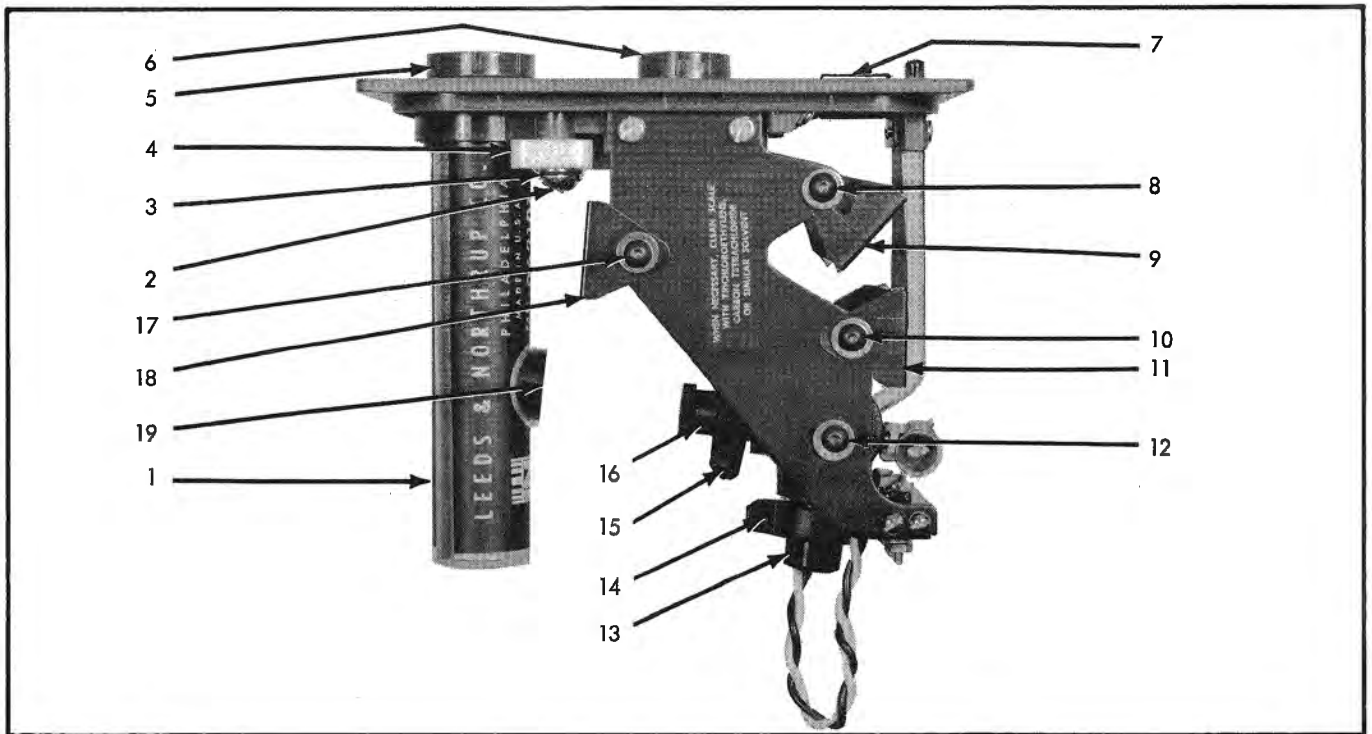

Figure 4-2. GALVANOMETER PART LOCATIONS
c. **GALVANOMETER SYSTEM REPLACEMENT.** The galvanometer tube (1, Figure 4-2) contains the galvanometer system consisting of a coil, filamentary suspension, mirror, and magnet. Since this is a very delicate mechanism with quality construction, the entire tube must be replaced if something goes wrong with the galvanometer system. However, because of the protective nature of the thermocouple, the galvanometer system needs to be replaced only in rare cases. To replace the galvanometer system, proceed as follows:
- (1) Remove eight screws fastening front panel of 540A to case and carefully lift front panel and attached chassis from case assembly.
- (2) Remove connections to galvanometer system terminals (3).
- (3) Remove two screws (2) fastening galvanometer system (1) and yoke (4) to galvanometer mounting plate and lift galvanometer system and yoke from plate. Note arrangement of washers on screws since they must be replaced in the same sequence.
- (4) Remove two screws (3) fastening galvanometer system to yoke and remove yoke.
- (5) Mount yoke on new galvanometer system making sure that yoke is centered before tightening screws.
- (6) Center FINE ADJUST control (6).
(1) Remove eight screws fastening front panel of 540A to case assembly and carefully lift front panel and attached chassis from case.
(2) Loosen lamp-socket-holding screw (14, Figure 4-2) with Allen wrench (mounted on chassis next to galvanometer) enough to permit lamp socket (13) to slide out of housing.
(3) Remove old lamp and insert new lamp.
(4) Insert socket with lamp in housing and tighten lamp-socket-holding screw just enough to hold lamp socket in place.
(1) Center **FINE ADJUST** control (6, Figure 4-2).
(2) Turn coarse adjust control (5) until index line of image is as close as possible to zero on scale.
(3) Bring index line to zero with **FINE ADJUST** control.
(1) Remove eight screws that fasten front panel of 540A to case assembly and carefully lift front panel and attached chassis from case.
(2) Use small Allen wrench (mounted on chassis next to galvanometer) to loosen focusing-tube-clamping screw (15, Figure 4-2) just enough to permit tube (16) to be moved by hand.
(3) Slide focusing tube forward or backward to obtain proper focus and then rotate tube until index line is parallel to lines on scale.
(4) Tighten screws and make sure that tube does not move.
(5) Carefully place front panel and attached chassis into case assembly and replace eight screws that fasten front panel to case.
(2) If window (19, Figure 4-2) does not line up with focusing tube (16) in the vertical plane, bottom view, adjust galvanometer system by removing and then replacing galvanometer system as when installing a new system per paragraph 4-3c steps (2) through (9).
(3) Hold a piece of white paper in front of window (19) in galvanometer tube. Image of lamp filament should appear on paper at approximate center of window.
(4) Using an inspection mirror, check to see that image of filament appears on mirror inside window.
(5) If conditions of steps (3) and (4) do not exist, proceed as follows: loosen two lamp-housing-holding screws (12) with Allen wrench (mounted on chassis next
(6) If light square with bisecting index line does not appear on scale (7) when coarse adjust control is turned, adjust reflection system mirrors as follows: loosen three mirror holding screws (8, 10, and 17) on each side of mounting bracket just enough to allow mirrors to be moved easily; tilt mirrors to approximate positions shown in Figure 4-2 making sure each end of mirror is adjusted the same; hold a piece of white paper in front of second mirror (18) and tilt first mirror (11) until light square is equidistant from top and bottom edges of second mirror--it may be necessary to turn coarse adjust control to bring light square near center of mirror; tilt second mirror and third mirror (9) until light square appears on scale; tighten six mirror holding screws to maintain proper position of mirrors.
(7) Carefully place front panel and attached chassis into case assembly and replace eight screws that fasten front panel to case.